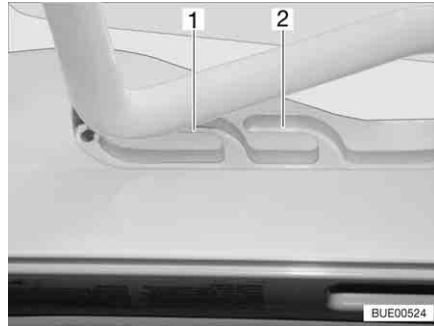
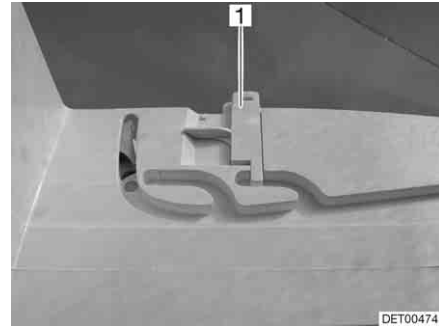

Fig. 60 Heki skylight in ventilation position
Fig. 61 Ventilation position locking mechanism
The Heki skylight can be put in two ventilation positions: Bad weather position (Fig. 60,1) and central position (Fig. 60,2). Depending on the model, the skylight can be locked in the central position with the latch (Fig. 61,1).
- Push the bar slightly upwards and into the selected guide (Fig. 60,1 or 2) and lock if necessary.